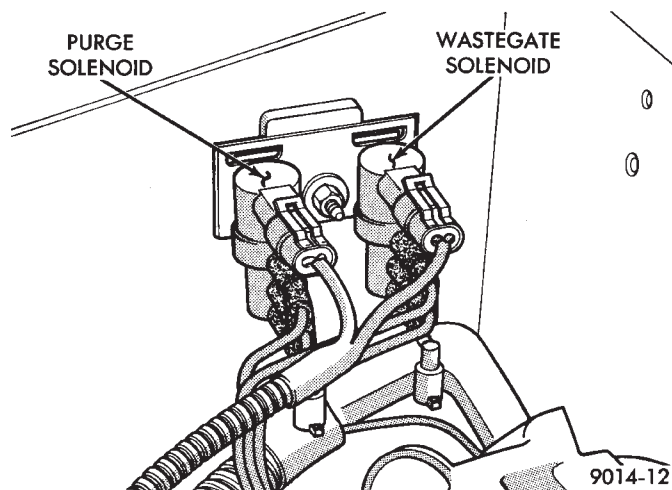

Fig. 3 Solenoid Connections Turbo I
- (2) Verify the electrical connector is attached to the Canister Purge Solenoid (Fig. 3).
(3) Verify the electrical connector is attached to the Wastegate solenoid (Fig. 3).
(4) Check vacuum hose connections between vacuum source and canister purge, wastegate and barometric read solenoids (Fig. 3 and 4).